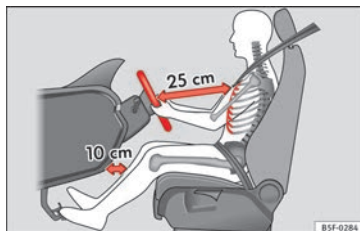

Fig. 1 The proper distance between driver and steering wheel
- Adjust the steering wheel so that there is a distance of at least 25 cm between the steering wheel and the centre of your chest » **Fig. 1.**
the chest and the centre of the steering wheel» **Fig. 1**. If you are sitting closer than 25 cm, the airbag system cannot protect you properly.
- Adjust the steering wheel until the correct position is set» **Fig. 1**.
- Adjust the driver seat or steering wheel so that there is a distance of at least 25 cm between the steering wheel and your chest» **Fig. 1**. If you fail to observe the minimum distance, the airbag will not protect you. Risk of fatal injury.